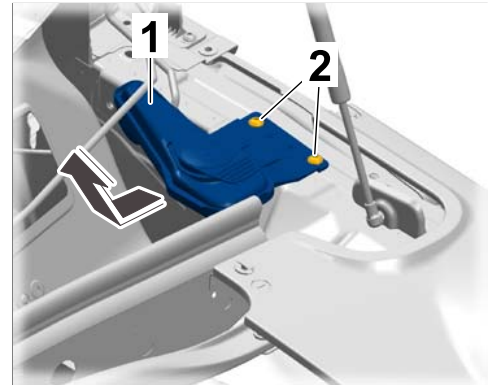

Figure 44
- 5.9.1 Insert filler neck ⇒ *Figure 44 -1-* into the washer-fluid reservoir.
- 5.9.2 Screw in and tighten screws ⇒ *Figure 44 -2-*.